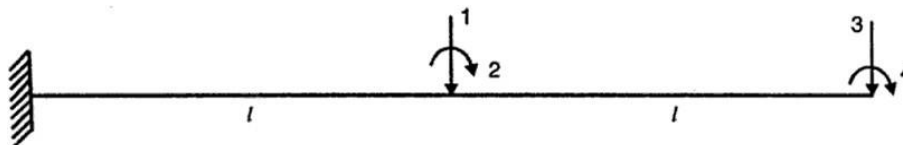

Figure 2.4
4. Develop the flexibility matrix for the cantilever beam with reference to the coordinates shown in Figure 2.4